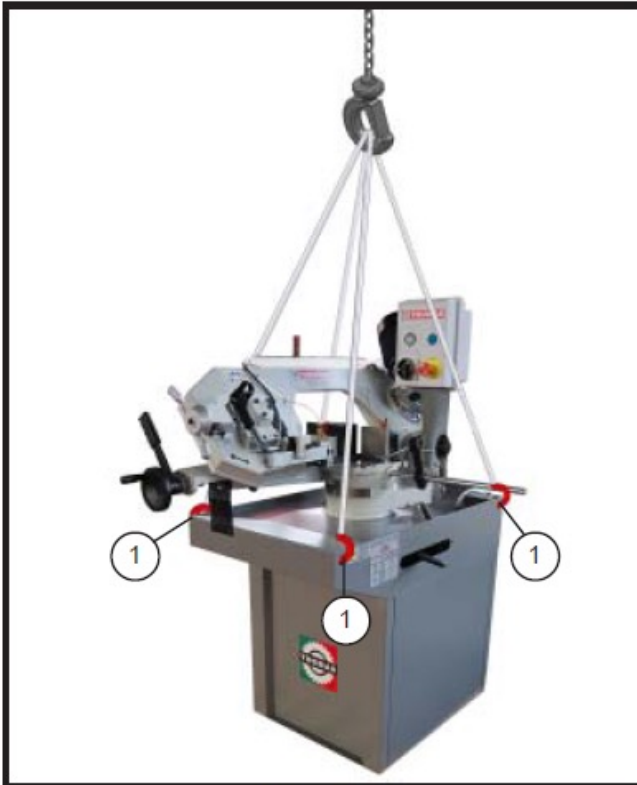

Fig. 2-9
- a) Insert the straps into the special holes (fig. 2-9) located at the four corners of the machine bench.